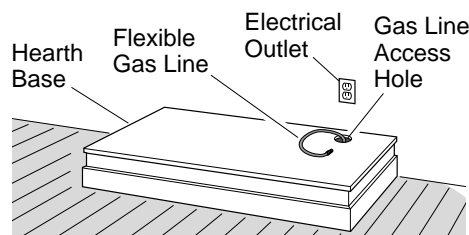

Figure 8 - Placing Hearth Base Accessory Against Wall
2. When installing blower, install a properly grounded, 120 volt three-prong electrical outlet at fireplace location if an outlet is not there. If possible, locate outlet so cabinet mantel will cover it when installed (see Figure 8).
4. Place hearth base accessory against wall at installation location. Cut an access hole in hearth top to run flexible gas line to fireplace (see Figure 8). Make sure to locate access hole so cabinet mantel will cover it when installed. *Note:* You can secure base to floor using wood screws. Countersink screw heads and putty over.